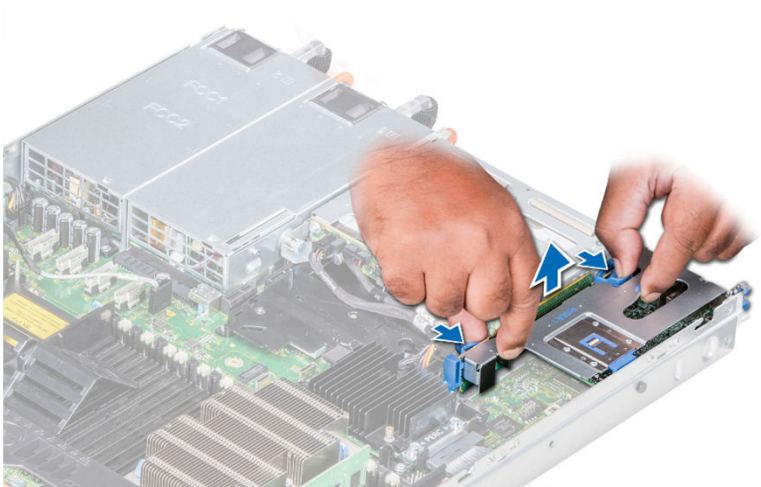

Figure 41: Remove the expansion riser 1B (2 CPU systems)
4. Lift the PCIe Expansion riser out of the server (Figure 41: Remove the expansion riser 1B \(2 CPU systems\) on page 141; Figure 42: Remove expansion riser 1A \(1 CPU systems with H730P or H750 RAID Controller\) on page 141) using the blue touch points.